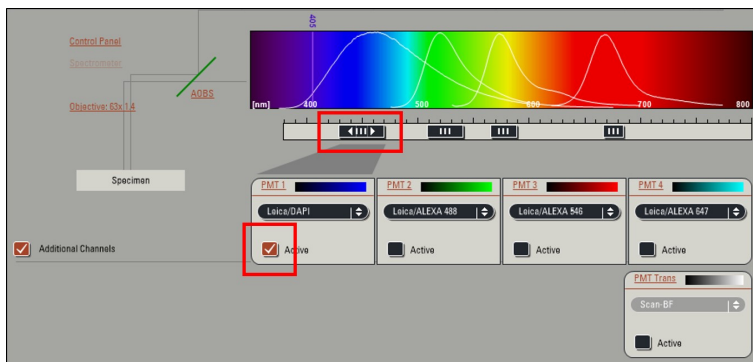

Figure 7: Engage PMTs and set the bandpass.
5. For each laser line engage a PMT and set the bandpass with the sliders. See Figure: 7